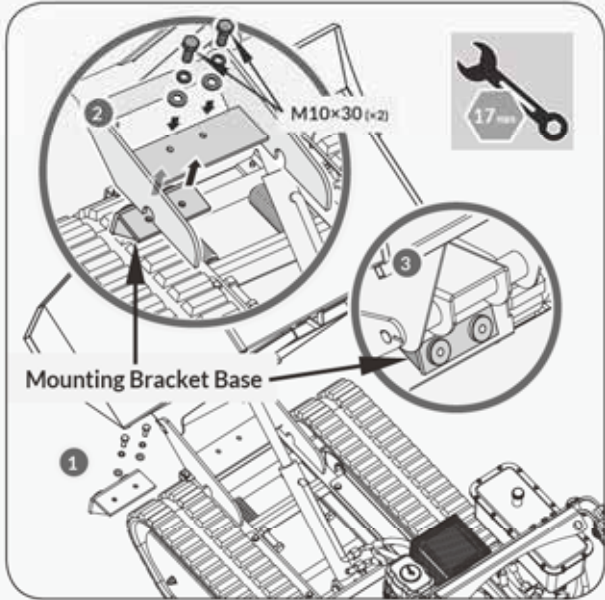

Figure 2e
7. Install the mounting bracket base with two M10×30 bolts and washers. (See **Figure 2e**)